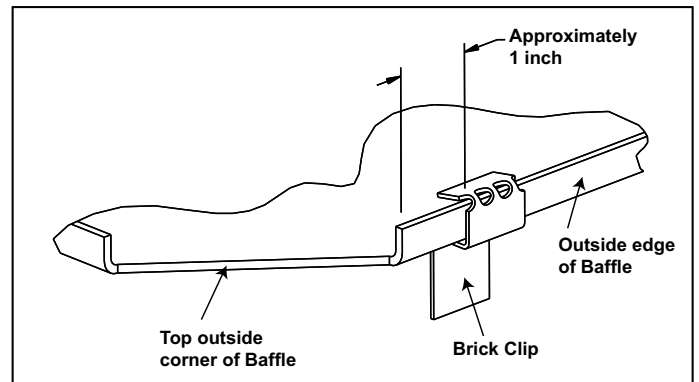
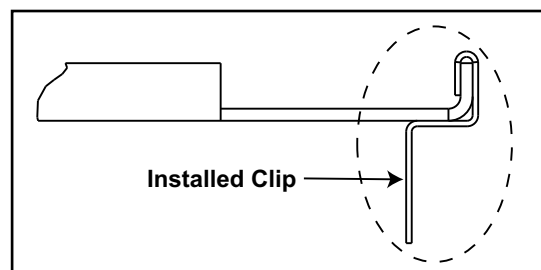

Figure 23.4
Figure 23.5
3. Complete brick set, correctly installed. **Figure 23.4.**
2. Using pliers, bend the brick clip slightly past 90° in the direction shown in **Figure 23.4.**
3. Position the brick clip as shown in **Figure 23.4** and use pliers to crimp around the outside edge of the baffle. **Figure 23.5** shows the finished shape of the brick clip after being bent around the outside edge of the baffle.